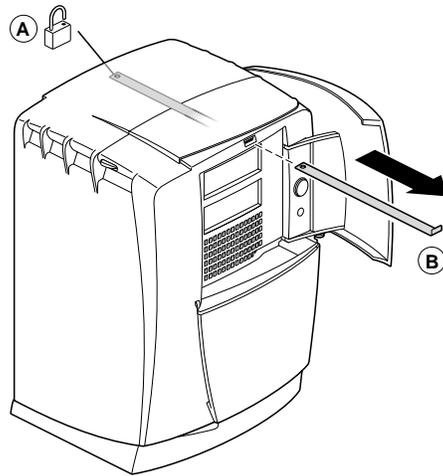

Figure 7-3 Unlocking and Removing the Lockbar
2. Unlock and remove the lockbar (see A in Figure 7-3).
3. Close the door (B) on the front of your workstation.